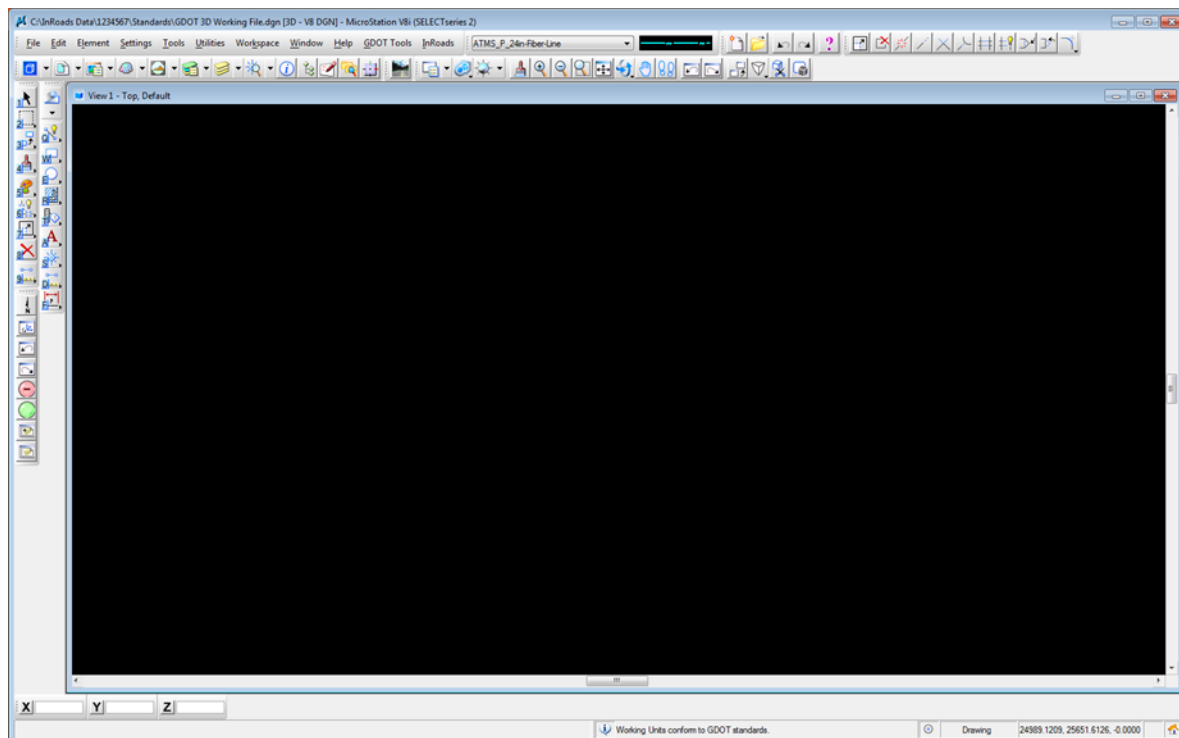
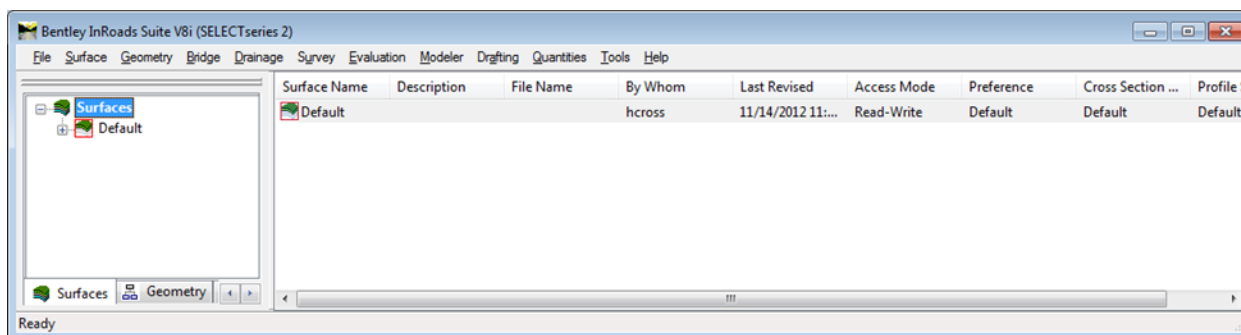

Figure 1-3 Main MicroStation V8i Window
Figure 1-4 Main InRoads V8i Window
9. Select **InRoads ► InRoads Suite (SELECTseries 2) V8i 08.11.07.566** — and the **InRoads V8i Select Series 2** interface will open. Once **InRoads** and **MicroStation** are up and running, the desktop should look similar to that of *Figure 1-3* and *Figure 1-4*.
- The **MicroStation V8i Select Series 2** interface will then finish opening. Then select **InRoads ► InRoads Suite (SELECTseries 2) V8i 08.11.07.566** — and the **InRoads V8i Select Series 2** interface will open. Once **InRoads** and **MicroStation** are up and running, the desktop should look similar to that of previous screen captures *Figure 1-3* and *Figure 1-4*.